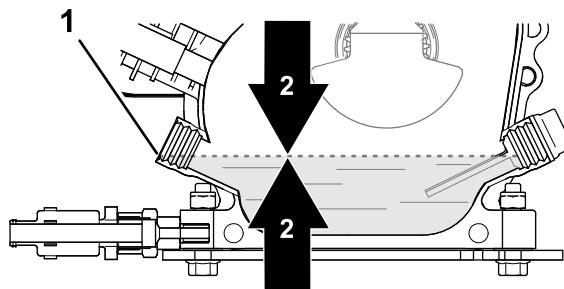

Figure 29
4. Check the oil level (Figure 29).